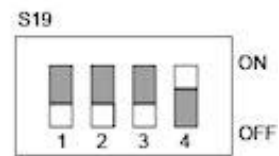

Figure A-24 Dip Switch S19 - 4 Setting
- Loose five (5) screws that fasten the control panel to the cover. See Figure A-24. Keep one hand on the control panel at all times to prevent it from dropping to the floor.